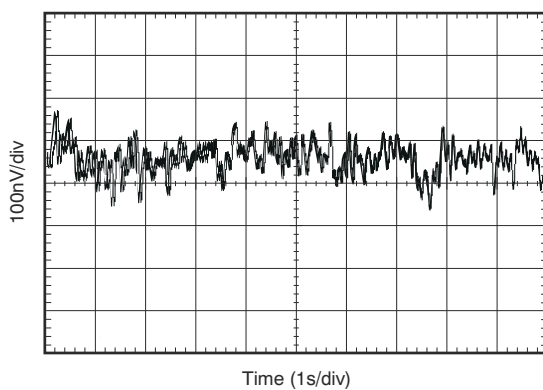

Figure 6-9. 0.1-Hz to 10-Hz Noise
0.1-Hz to 10-Hz Noise	Figure 6-9